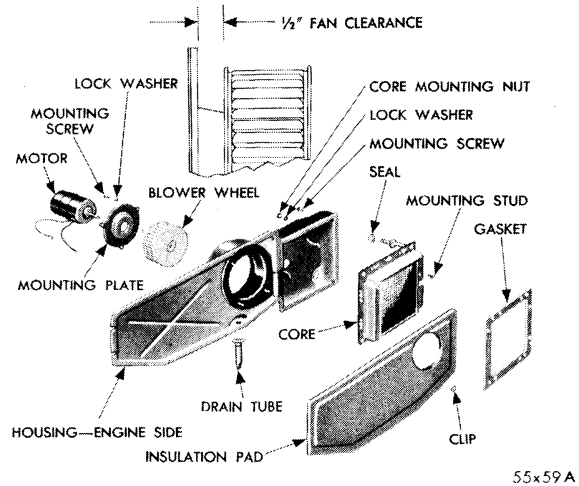

Fig. 16—Blower and Motor Assembly, Heater Core and Insulation to Heater Housing (Engine Side)
29. BLOWER MOTOR (REMOVAL AND INSTALLATION) (Fig. 16)